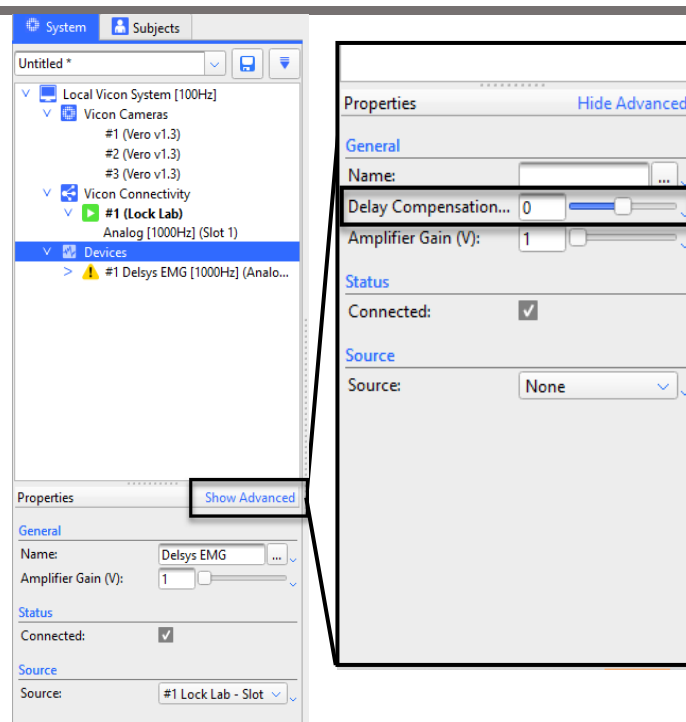

Figure 19: Compensating for analog signal time delays.
7. Time shifts can be implemented to compensate for delays associated with analog integration. Select the Delsys EMG device and expand the *Show Advanced* window from the Properties section. Adjust the Delay Compensation as necessary (Figure 19).